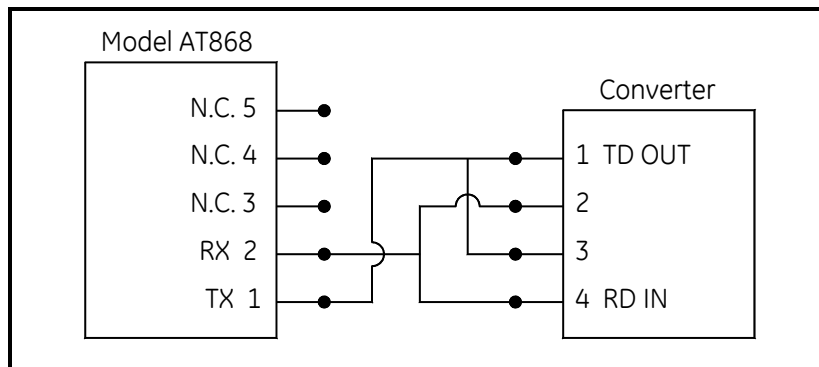

Figure 1-3: Typical RS485 Connections
2. Connect the other end of the cable to the converter, as shown in *Figure 1-3* below.